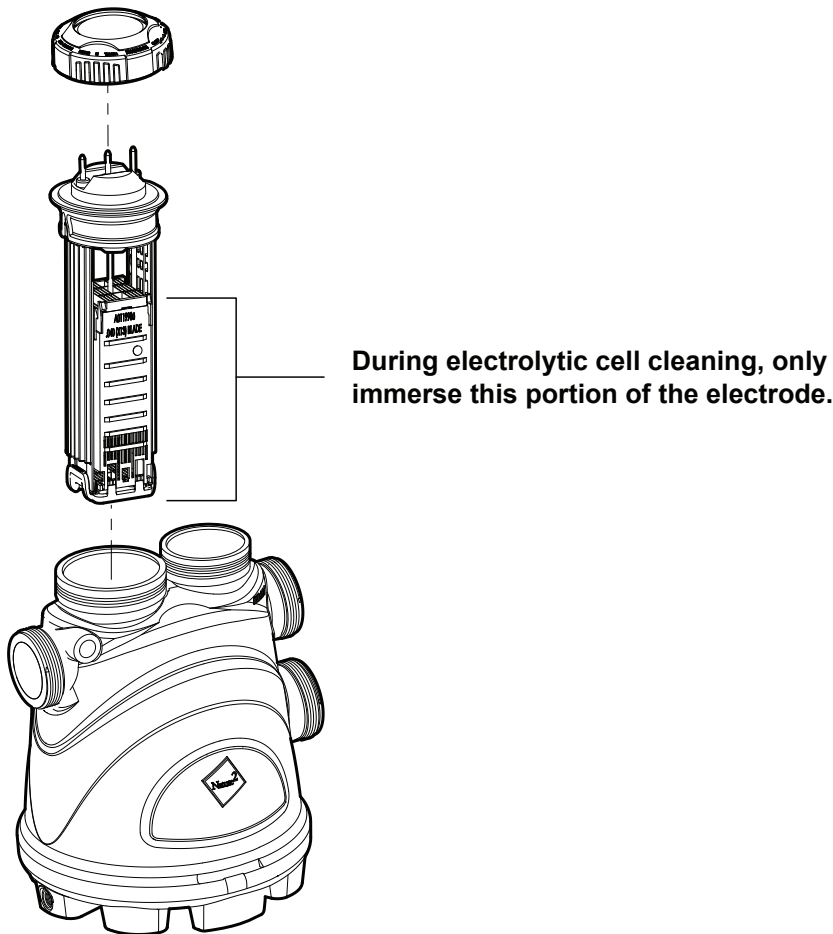

Figure 19. Electrolytic Cell Cleaning
5. Mix cleaning solution in a suitable plastic container by adding one (1) part of hydrochloric (muriatic) acid to ten (10) parts water. Note: To avoid splash, always ADD MURIATIC ACID TO WATER rather than water to muriatic acid. Solutions stronger than 1:10 will damage the electrolytic cell and void warranty. Submerge only the plates of the electrolytic cell in the cleaning solution. See Figure 19. Allow the cleaning solution to dissolve the calcium deposits for approximately five (5) minutes.